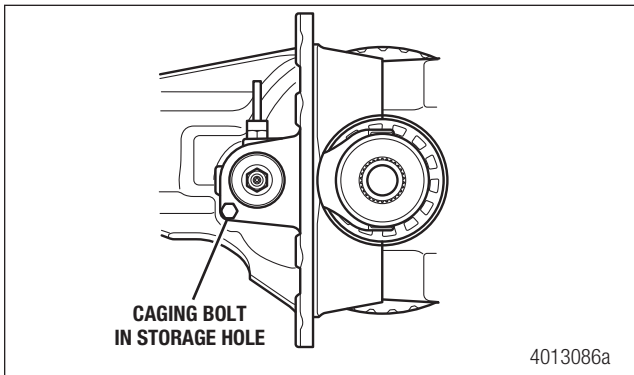

Figure 7.2
3. Remove the caging bolt from the side of the housing. Figure 7.2.